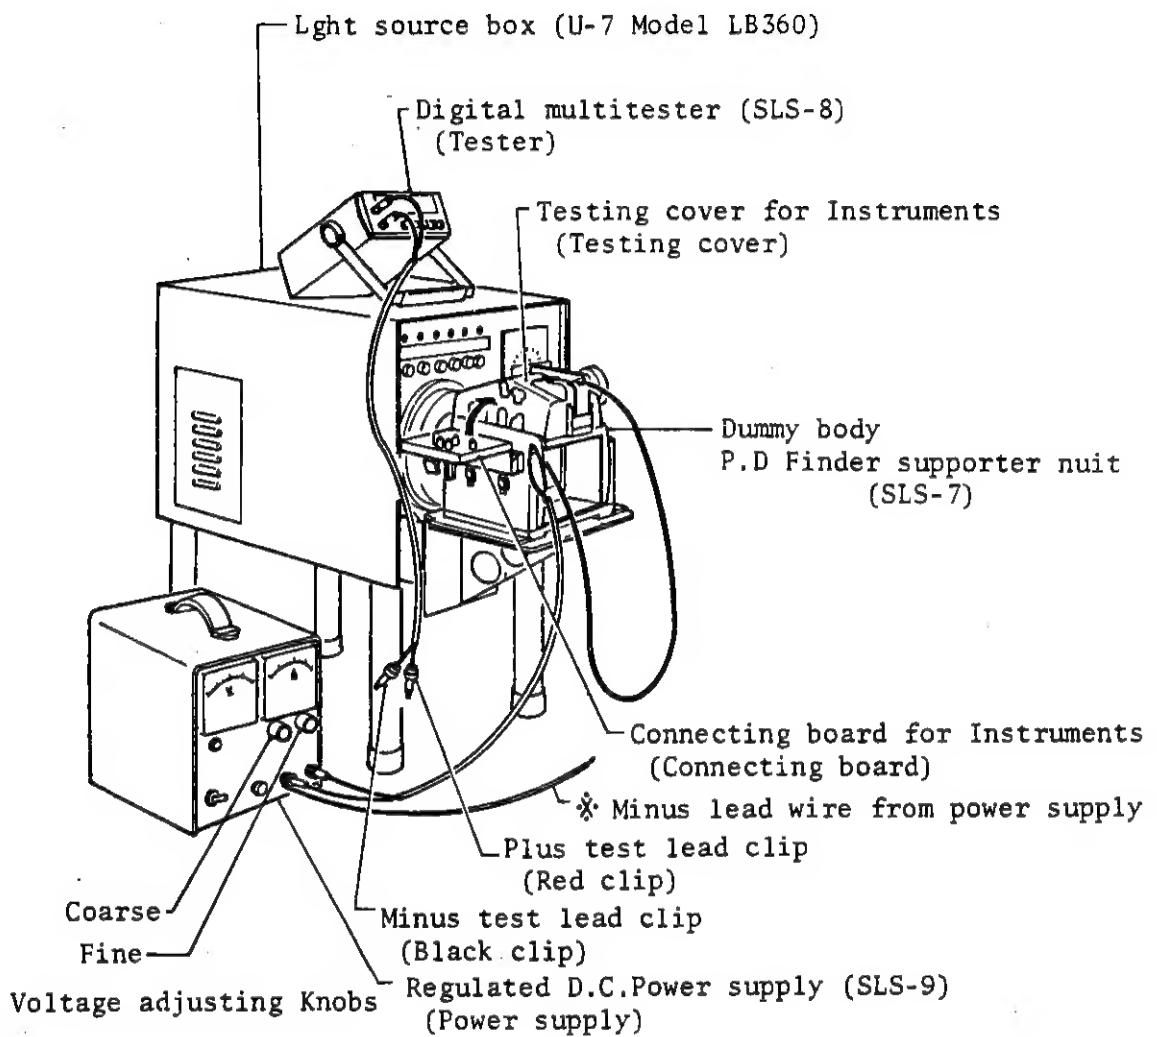

Fig.1
A. Set SLS-7 Dummy body, SLS-8 Digital multi tester and SLS-9 Regulated D.C. power supply to U-7 Light source box and EE-tester and wire those cords as shown in the Fig. 1.